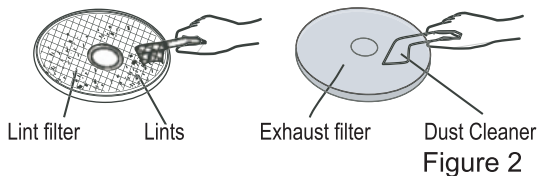

Figure 2
3. To install the hanging hook to timber, start at Fig 2.
Separate "exhaust vent shroud", "lint filter" and "exhaust filter". Clean the lint on the lint filter and exhaust filter with a soft brush or vacuum cleaner. Do not damage the filters(as show in figure 2).